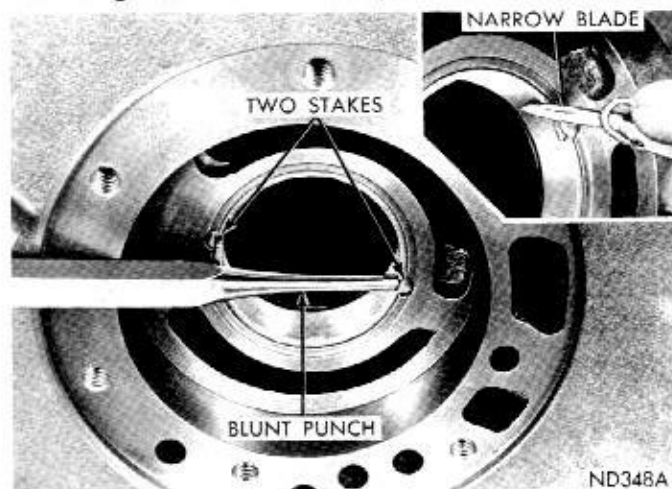

Fig. 52—Staking Pump Bushing (A-727)
(7) Stake the bushing in place by using a blunt punch or similar tool (Fig. 52). A gentle tap at each stake slot location will suffice.
(8) Using a narrow-bladed knife or similar tool, remove high points or burrs around staked area (Fig. 52). Do not use a file or similar tool that will remove more metal than is necessary.
(9) Thoroughly clean pump housing before installation.